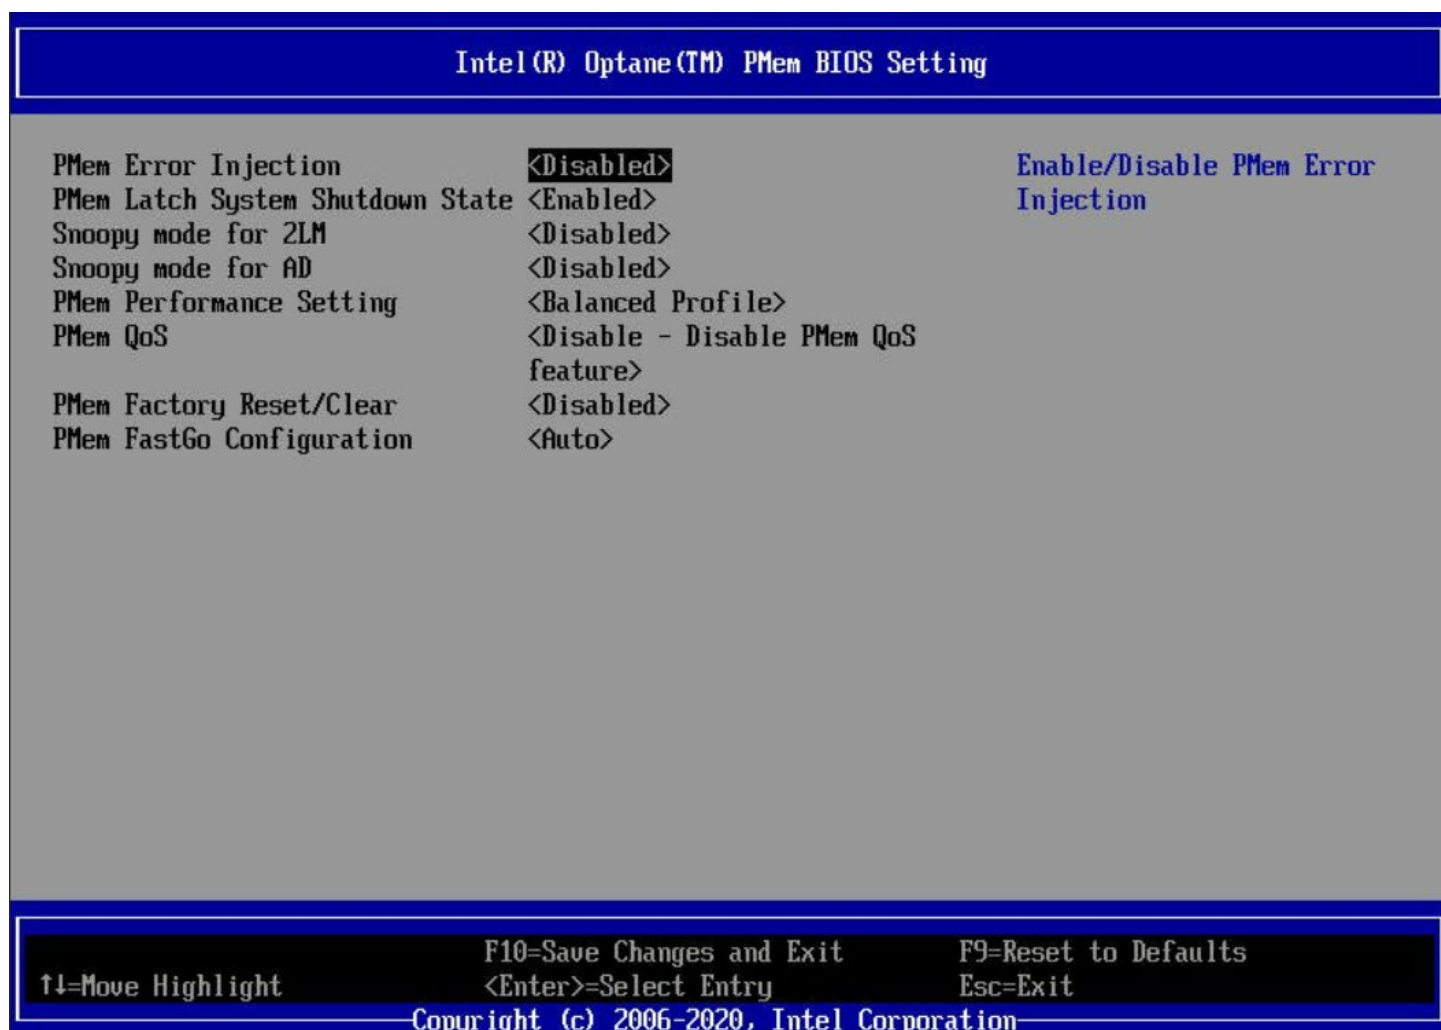

Figure 64. Intel® Optane™ PMem BIOS Setting
Figure 64 shows the **Intel(R) Optane(TM) PMem BIOS Setting** screen. This screen includes all the PMem related BIOS settings.